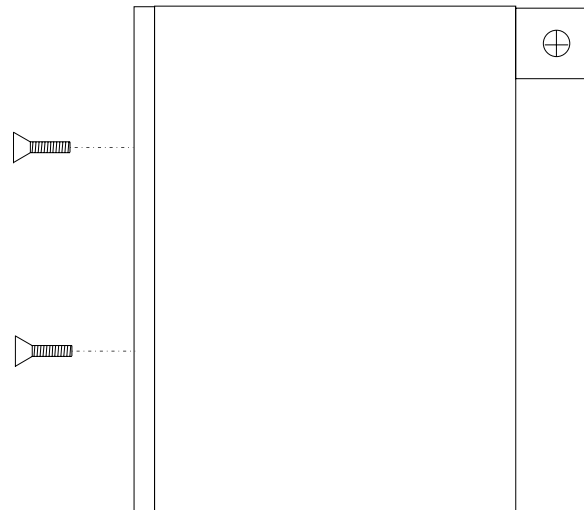

Figure 8-9. Location of Floppy Disk Drive Assembly Mounting Plate Screws
- Step 4. Remove the three screws that fasten the floppy disk drive mounting plate to the chassis and to the Test Set Module tray (see Figure 8-9).